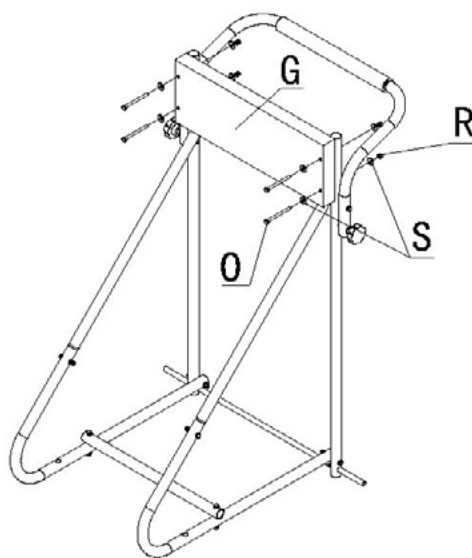

FIG. 5.
Step 5. Connect the board (G) through M6*75 bolt (O), 6*18 flat washer (S) and M6 lock nut (R) See FIG. 5.